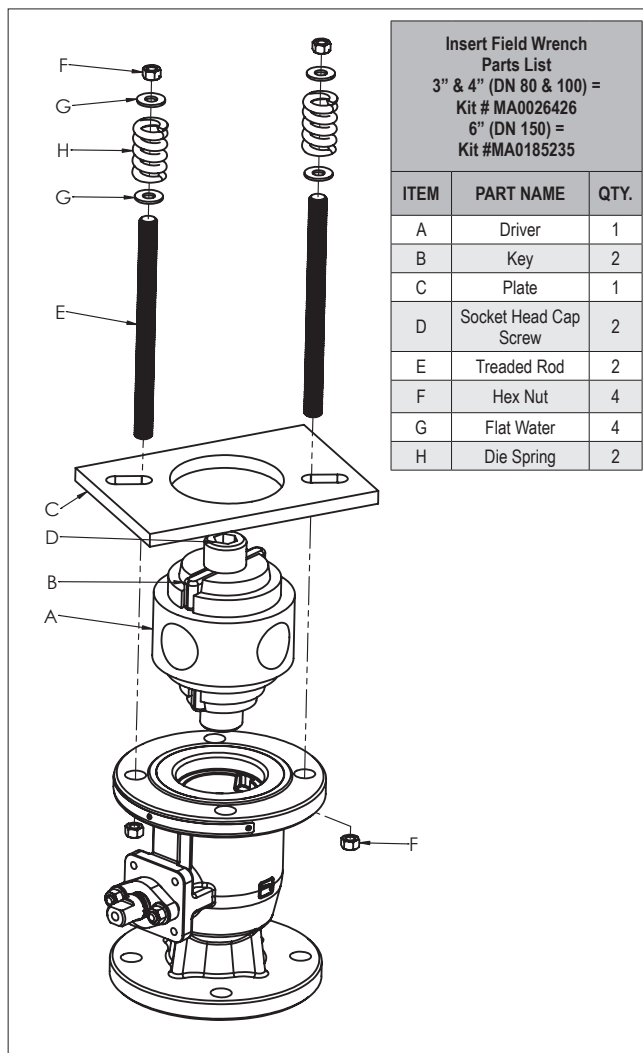
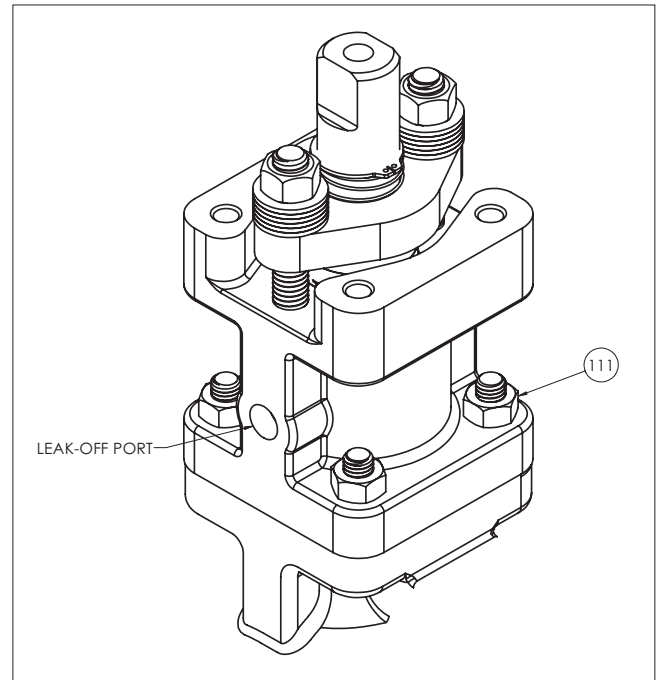

Figure 5. Insert Field Wrench
Figure 6.
Tools needed to disassemble Jamesbury 3", 4" & 6" 7000 series valves, such as the "insert field wrench" mentioned in step 3 and shown in (**Figure 5**), may be ordered as (MA0026426) for 3" & 4" (DN 80 & 100) Series 7000, and (MA0185235) for 6" (DN 150) Series 7000 from your local Valmet Distributor.
3. The insert design requires that the insert (2) be unthreaded in a counter clockwise motion using the following method utilizing the insert field wrench. Assemble the field wrench as follows (see **Figures 5 and 19**):
- A. Place the driver (A) into the insert (2) slots.
- B. Put the plate (C) on top of the driver (A).
- C. Place the studs (E) through the plate (C) and flange holes. Thread the nuts (F) onto the stud below the flange.
- D. On the top side of the plate (C) put a flat washer (G), die spring (H), flat washer (G), and nut (F). Tighten to slightly compress spring
Tools needed to disassemble *Jamesbury* 3", 4" & 6" 7000 series valves, such as the "insert field wrench" mentioned in step 3 and shown in (**Figure 5**), may be ordered as (MA0026426) for 3" & 4" (DN 80 & 100) Series 7000, and (MA0185235) for 6" (DN 150) Series 7000 from your local Valmet Distributor.
6. The insert design requires that the insert (2) be unthreaded in a counter clockwise motion using the following method utilizing the insert field wrench. Assemble the field wrench as follows (see **Figures 5 and 19**):
- a. Place the driver (A) into the insert (2) slots.
- b. Put the plate (C) on top of the driver (A).
- c. Place the studs (E) through the plate (C) and flange holes. Thread the nuts (F) onto the stud below the flange.
- d. On the top side of the plate (C) put a flat washer (G), die spring (H), flat washer (G), and nut (F). Tighten to slightly compress spring
7. Place a pipe or rod that will tightly fit through the hole in the driver (A) and loosen the insert (2) by turning counterclockwise. Ensure the pipe or rod is of sufficient strength so as not to yield or break during the loosening operation.
8. Remove the tool and lift out the insert (2).
10. Rotate the stem so that the ball is in the closed position for removal. If the ball (3) does not swing free from the body, with the ball in the fully closed position, use a piece of wood or some other soft material to gently tap the ball (from the end opposite the body cap). This should loosen the ball so that it can be pivoted free of the stem (4). Lift out the body seal (6), seat (5), and the ball. The bottom grounding spring (71), located in bottom of the stem, may fall out at this time. If the spring does not fall out with the stem, remove it from the stem to prevent it from being lost.
11. Carefully remove the bottom seat (5) out of the body, **BEING CAREFUL NOT TO SCRATCH THE BODY SEALING SURFACE BEHIND THE SEAT.**
12. Remove the retaining ring (72) and grounding spring (70) from stem (4).
13. Remove hex nuts (30), disc springs (31) and compression plate (20). Pay careful attention to the orientation of the disc springs (31) and make sure they are in the same orientation during assembly.
14. Remove hex nuts (111) and lift the *Emission-Pak* housing (101) straight up until the ball end of the stem (4) clears the valve body (1) (see **Figure 6 and 20**).
15. Carefully remove and discard the inner and outer stem retainer seals (105) and (106).
16. From the *Emission-Pak* housing (101) remove the stem (4), stem bearings (13), secondary stem seal (7), stem seals (104), bearing strip (109) and lantern ring (103), **BEING CAREFUL NOT TO DAMAGE ANY SEALING SURFACE.**